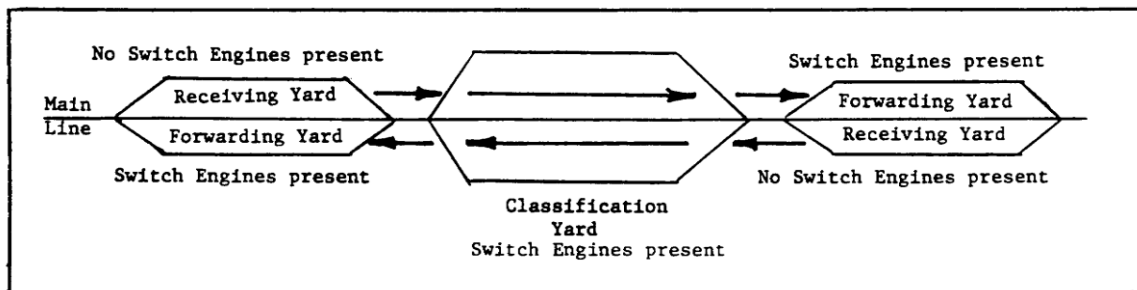

Figure 1-6. Traffic Flow Non-Gravity Marshaling Yard.
a. Non-gravity or flat marshaling yard. Trains entering the receiving yard release the rolling stock. The rolling stock is then transferred to the classification yard. A switch engine is used to classify the rolling stock by track and destination before it is pushed into the forwarding yard (Figure 1-). No retarders are found in classification and forwarding yards of a non-gravity system. Normally, switch engines are located in the smaller of the two yards, which is the forwarding yard, and thus the traffic flow can be determined (Figure 1-6).